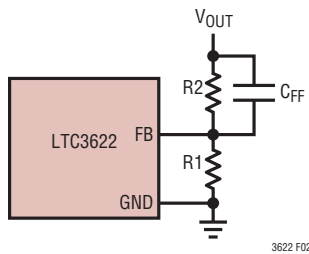

Figure 2. Setting the Output Voltage
**FB2 (Pin 10):** Feedback Input to the Error Amplifier of Channel 2 Step-Down Regulator. Connect resistor divider tap to this pin. The output voltage can be adjusted from 0.6V to VIN by:  $V_{OUT} = 0.6V \cdot [1 + (R2/R1)]$ . (Figure 2)
**FB1 (Pin 12):** Feedback Input to the Error Amplifier of Channel 1 Step-Down Regulator. Connect resistor divider tap to this pin. The output voltage can be adjusted from 0.6V to VIN by:  $V_{OUT} = 0.6V \cdot [1 + (R2/R1)]$ . (Figure 2)
The resistive divider allows the FB pin to sense a fraction of the output voltage as shown in Figure 2.
The initial output voltage step may not be within the bandwidth of the feedback loop, so the standard second order overshoot/DC ratio cannot be used to determine phase margin. In addition, a feedforward capacitor can be added to improve the high frequency response, shown in Figure 2. Capacitor  $C_{FF}$  provides phase lead by creating a high frequency zero with  $R_2$ , which improves the phase margin.